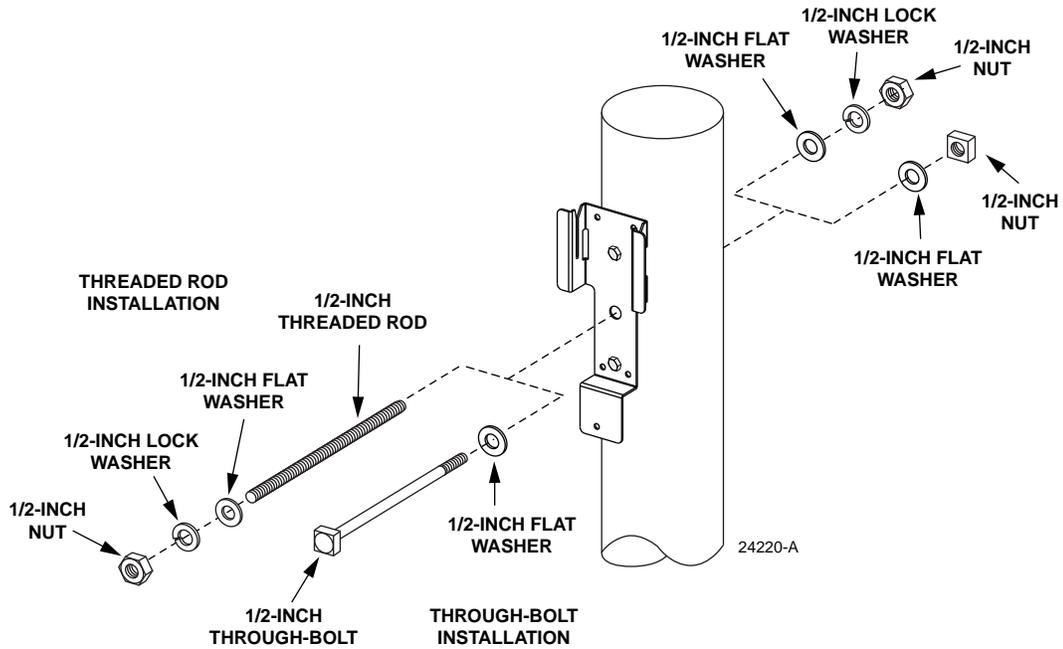

Figure 7. Threaded Rod or Through-Bolt Installation
- ▶ **Note:** If the utility pole is in good condition, the two 3/8-inch lag screws will provide sufficient strength and holding power to permanently attach the cabinet to the pole. If the utility pole is in poor condition, it is recommended that **in addition** to the lag screws, a 1/2-inch threaded rod or through-bolt be used to secure the mounting bracket to the pole. Refer to Figure 7 for the recommended installation procedure.